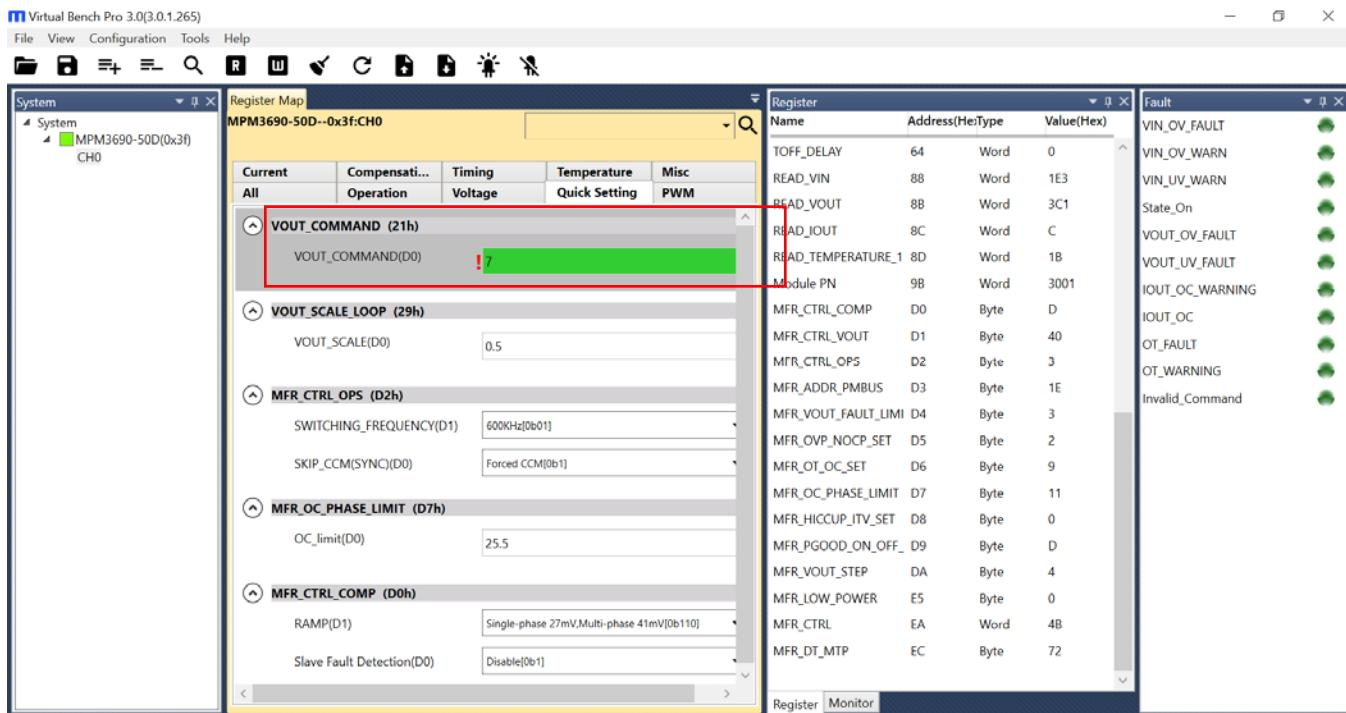

Figure 5: Enter Desired Values in the Register
6. Program the registers to desired values. A valid input must be entered or an alert appears and the entered value is not accepted (see Figure 5).